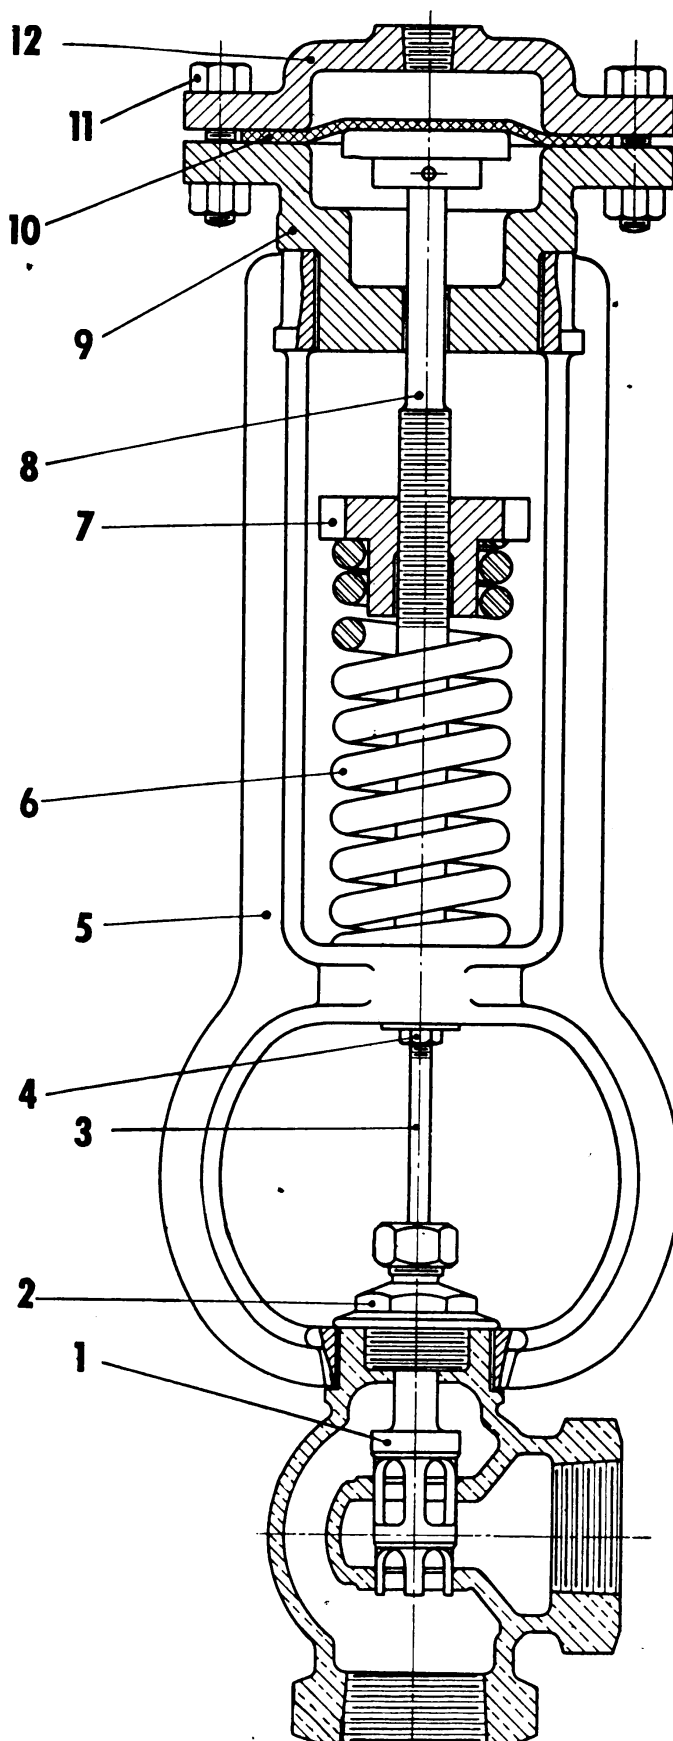

Fig. 13—Governor Assembly
Before disassembling pump governor for repair, refer to fig. 13 for the various parts and reference numbers. The only parts subject to wear are the diaphragm (10), the valve disc (1) and the valve stem (3). The other parts will seldom, if ever, require replacement unless due to breakage from some abnormal condition.
45. Disassembly and Repair. (See fig. 13).